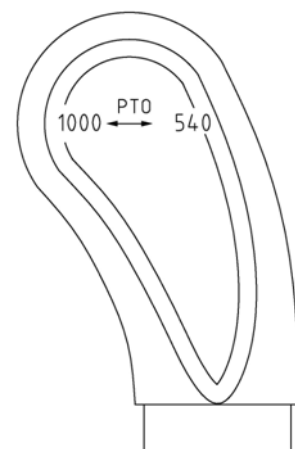

Fig 4-20
- (1) Take out the joint which in the tractor's accessories, connect one end to implement on the pipeline.
- (2) Remove the rubber plugs, rubber plug for the same set of hydraulic output circuit are the same color.
- (3) Selected to remove the self-closed joint sleeve position, and then grip and push the self-closed joint's sleeve (as shown in figure 4-20), as in the case of without letting go, insert the other end of the connector into self-closed joint's sleeve. When it is confirmed that it has been inserted correctly, release you hand, the self-closed joint sleeve and the connector are connected together, thus realizing the quick connection of the pipeline. Make sure that hose ends and coupler receptacles are clean and dry.
- (4) After using the hydraulic output valve, place the multiple directional control valve handle in a neutral position, push it again by hand in the shell of the self-sealing joint sleeve, unloose the connector body, immediately release the connector body, and plug the plug into the self-sealing nipple sleeve. Then grip
implement when the tractor stops. The speed of PTO changed by PTO control handle (as shown in fig 4-20).